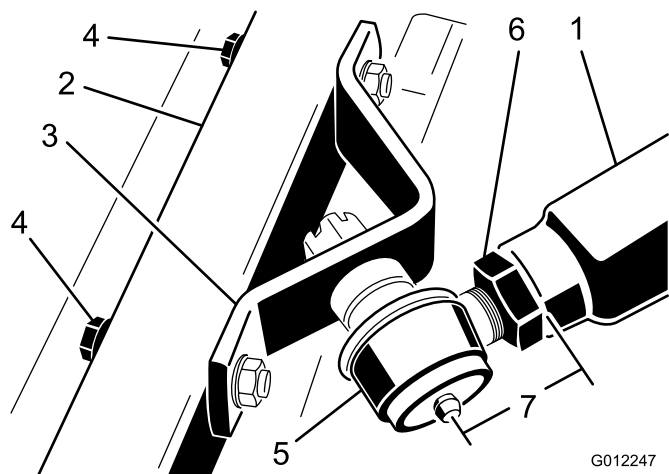

Figure 6
3. Measure the distance from the end of the right-hand push arm to the center of the ball joint (grease fitting) (Figure 6). The distance should be 2-3/4 inches (70 mm). If the distance is not 2-3/4 inches (70 mm), loosen the jam nut securing the ball joint to the push arm and rotate the ball joint in or out until the correct distance is attained (Figure 6). Do not tighten the jam nut at this time.
6. Tighten the large jam nut securing the ball joint to the push arm (Figure 6). When tightening the jam nut, hold the ball joint straight to permit proper oscillation during raising and lowering of the cutting unit. Carefully remove the wood block holding the push arm down.